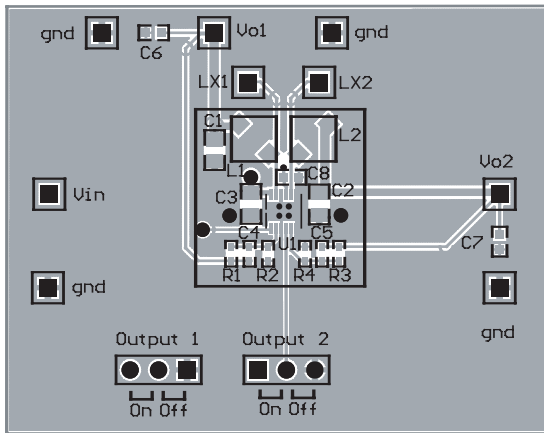

Figure 3: AAT2511 Evaluation Board Top Side.
1. Due to the pin placement of V_{IN} for both converters, proper decoupling is not possible with just one input capacitor. The large input capacitor C3 should connect as closely as possible to V_P and GND, as shown in Figure 3. The additional input bypass capacitor C8 is necessary for proper high frequency decoupling of the second converter.